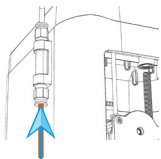

Figure 13
04. After heating is completed, the screen will prompt "Insert filament and Press Button to continue". At this time, you need to insert the filament into the inlet of the material break detection sensor and push the filament into the extruder (as shown in Figure 13 below) until the filament cannot be pushed, then press the knob again, the extruder gear starts to rotate, and make sure the extruder is gripping the filament.